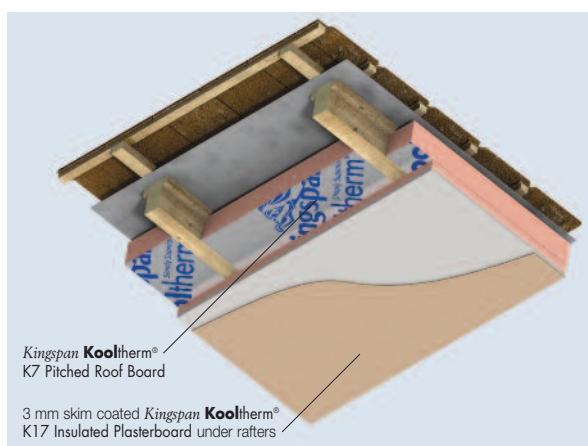

Figure 6 – Mechanically fixed to timber rafters with **Kingspan Kooltherm® K7 Pitched Roof Board** between rafters
- Sheets of **Kingspan Kooltherm® K17 Insulated Plasterboard** may be used to line ceilings (see Figure 6).